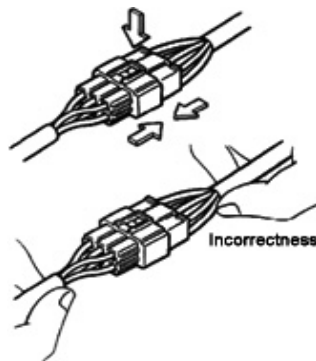

Fig. 4-2
4. Some interfaces are equipped with double self-locking, which must be unlocked before removing the interface from its mount (A).
5. To separate interfaces, pulling the harness should be avoided, instead, grab the interface (for the ones with self-locking, unlocking is required) to remove it from the mount (A). (Fig. 4-2)